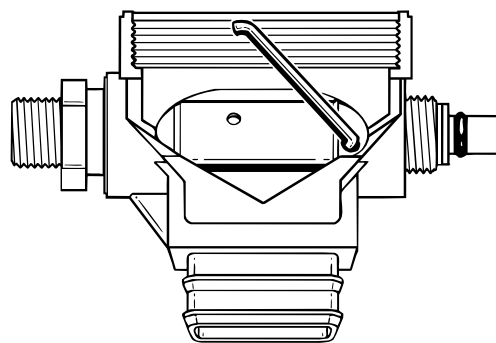

Fig. 22 - Lever Height Preliminary Setting
26. Install the O-ring(30) securely into the groove between the adjustment end of the valve body and box bottom.
27. Ensure that the adjustment screw is turned completely counter-clockwise into the retaining sleeve, and fit the cap nut(31) over its end. While holding the adjustment screw secure, thread the cap nut clockwise onto the end of the valve body until flush with the box bottom. Apply a torque wrench with ½" hex socket to tighten the cap nut until it is flush against the box bottom, to a torque measurement that does not exceed 24 inch-pounds.
28. Apply a medium blade screwdriver to turn the adjustable crown counter-clockwise inside the valve body. Watch closely as the lever arm begins to rise after 2-3 turns, and continue to slowly turn the adjustable crown counter-clockwise until the top of the lever stands just below the rim of the box bottom; exactly even with the first thread (see Fig. 22).